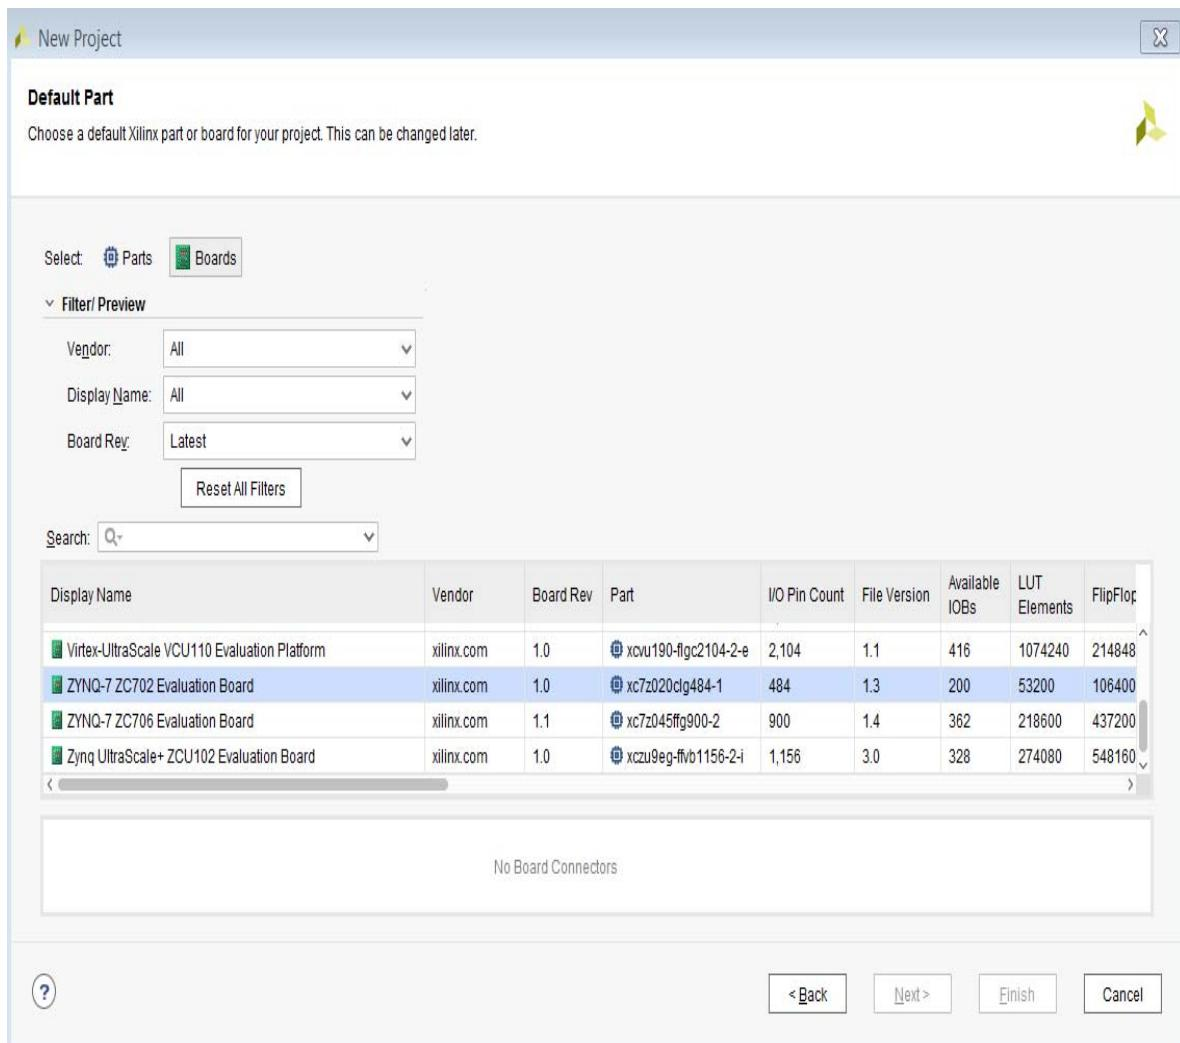

Figure 10-5: Specify the Vivado Project Details
- Select the **ZYNQ-7 ZC702 Evaluation Board** (Figure 10-5).